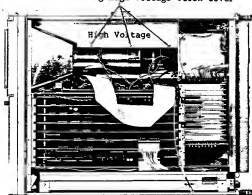
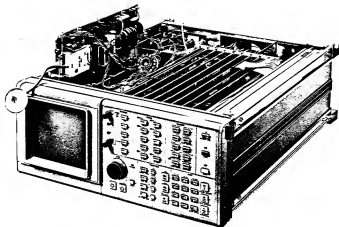

Fig. 13-5 High voltage
Fig. 13-6 High voltage re-mounting
(11) High Voltage Block (BLG-010204)
Remove the phase block as directed in step (8). Remove the rear foot and side plates from the Display Section referring to the assembly illustration, then remove the six screws retaining the high-voltage block cover shown in Figures 13-5 and 13-3. Next, remove the six board retention screws shown in Figure 13-3, then remove the board. Next, using the screw, connect the High voltage block to the mainframe as shown in Figure 13-6. When troubleshooting the high-voltage block, exercise caution to prevent electrical shock.
(12) CRT